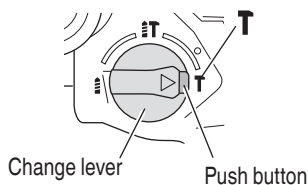

Fig. 19
This rotary hammer can be set to hammering only mode by pressing the push button and turning the change lever to the T mark (Fig. 19).
- (3) Turn the change lever to T mark (Fig. 19).